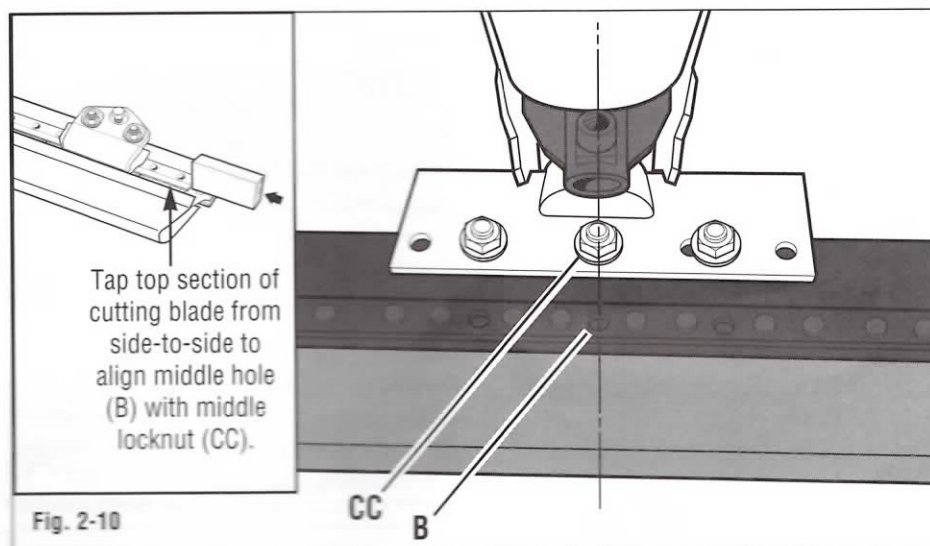
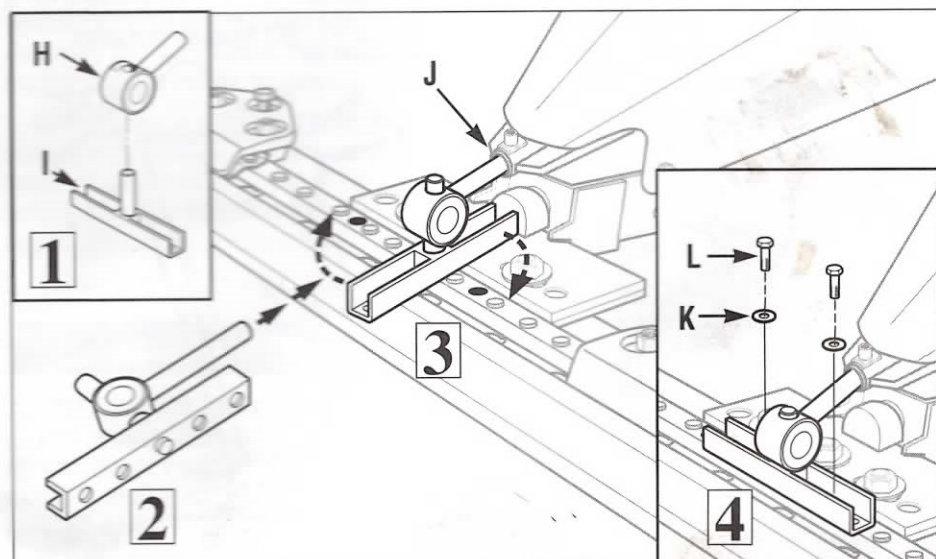

Fig. 2-10
Fig. 2-10A
8. Align the middle hole (B, Fig. 2-10) in the cutter bar with the middle locknut (CC, Fig. 2-10) on the cutter mounting bracket. If needed, tap the ends of the cutting blade back and forth (see inset, Fig. 2-10) to align the middle hole (use a wood block to avoid damaging the blade).
9. Slide the pitman assembly (H, Fig. 2-10A-1) onto the post of the knife head (I). The "TOP" decal on the pitman assembly must be facing up. Remove the two 5/16" hardened flat washers that are wire-tied to the knife head for shipping purposes.
10. As shown in Fig. 2-10A, rotate the pitman assembly sideways and slide the shaft on the pitman assembly into the hole in the eccentric arm (J). Next, rotate the pitman assembly to its upright position and turn the knife head so it is parallel with the cutting blade. Finally, align the small centering pin on the bottom of the knife head (I) with the middle hole in the cutter bar (B, Fig. 2-10) and position the knife head on the cutter bar.
11. Apply Loctite® Thread Fastener to the two 8M x 12M hex head screws (L, Fig. 2-10A) and place the two 5/16" hardened washers (K) on the screws. Securely attach the knife head to the cutter bar with the two screws (torque to 16-20 ft-lbs if you have a torque wrench).